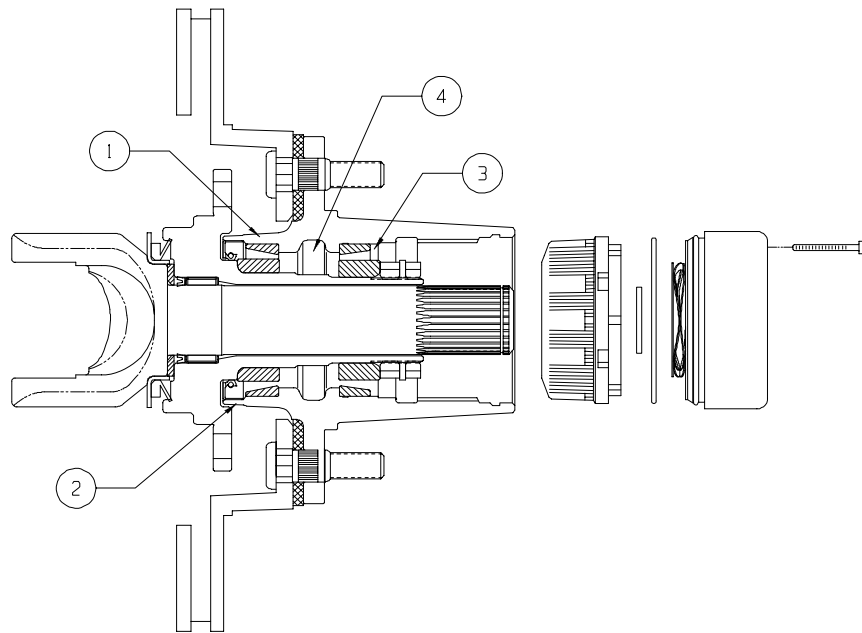

Figure 7. Bearing and seal installation.
2. Pack wheel hub inner diameter (Figure 7, Flag 4) with wheel bearing grease.
5. Install packed bearing into cup on inboard side of wheel hub. (Figure 7, Flag 1)
6. Apply additional grease around back side of installed bearing. (Figure 7, Flag 2)
7. Fill large radial seal cavity with grease. Press large radial seal into seat of inboard side of wheel hub. (Figure 7, Flag 2) Seal may protrude slightly from wheel hub.
9. Install outer bearing (Figure 7, Flag 3).